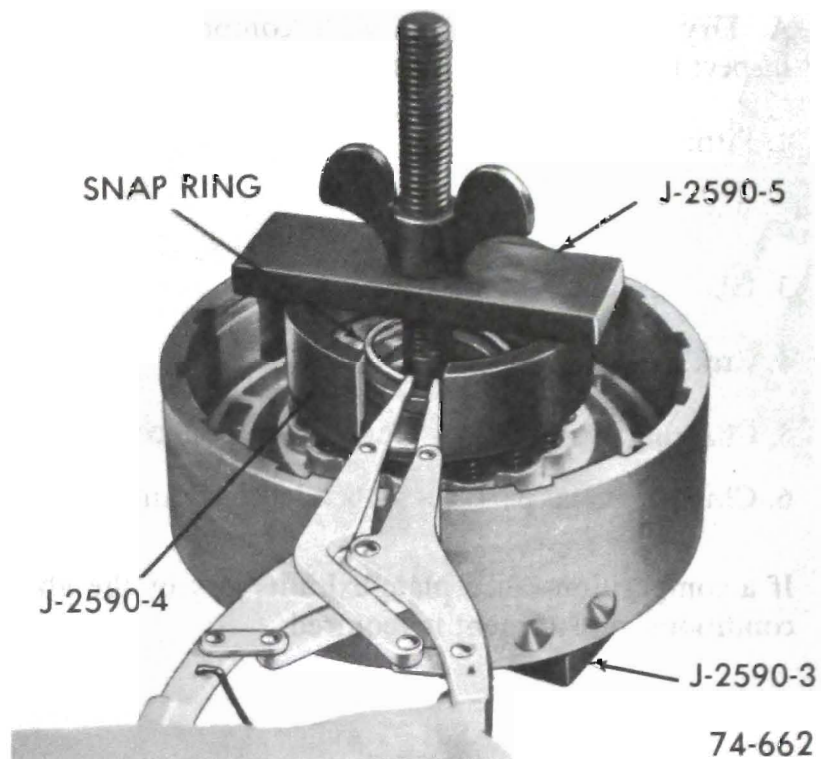

Figure 76-189
6. Compress springs using Clutch Compressor Tool J-2590, and install snap ring. See Figure 76-189.